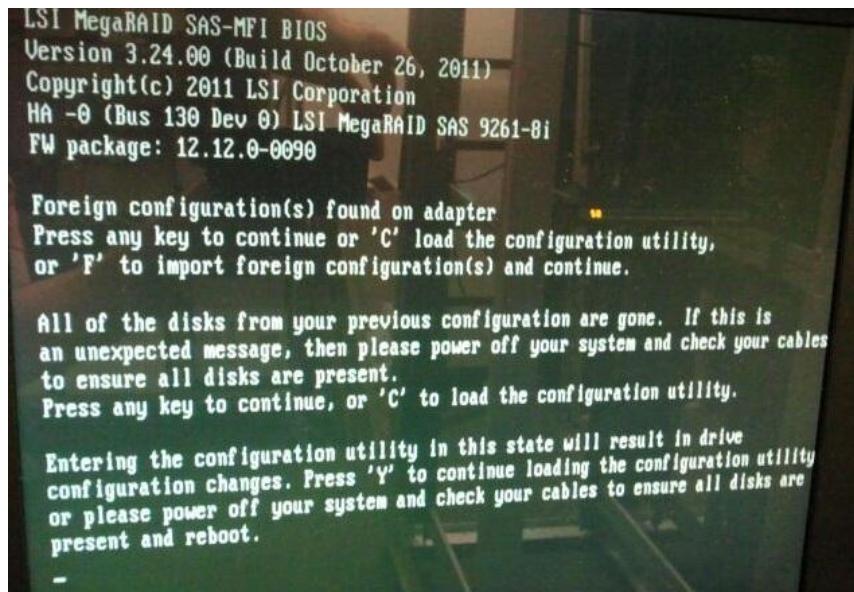

Figure 26: Messages displayed on the screen after typing 'F' and 'C'
3. After typing 'F', more messages will be shown. Please refer to Figure 26 below.